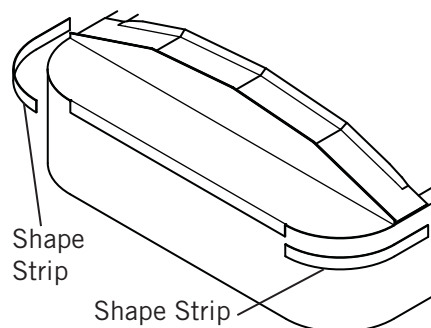

Figure 11
- 3) **Figure 11.** Attach with 3/8 x 1 Type F HWH Bolts through trough into top rail.
- 4) **Figure 11.** Shape the aluminum strip around the corner of the trailer, mark and cut to length for both sides.